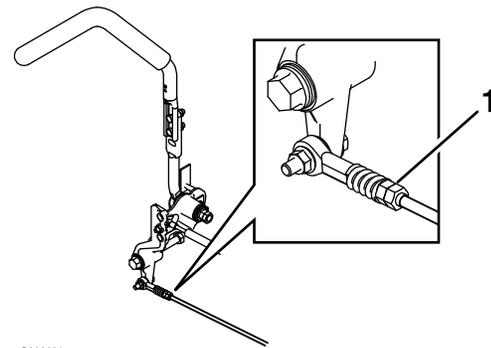

Figure 31
7. Bring the motion control levers into the neutral position. Adjust pump control rod lengths by rotating the double nuts on the rod in the appropriate direction until the wheels slightly creep in reverse (Figure 31). Move the motion control levers to the reverse position and while applying slight pressure to the lever allow the reverse indicator springs to bring the levers back to neutral. The wheels must stop turning or slightly creep in reverse.